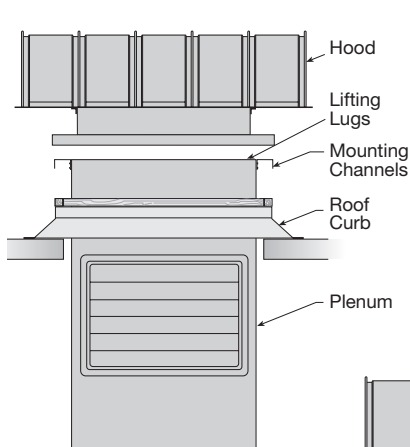

Figure 1
2. Lower the plenum (factory assembled) through the curb and roof opening until its mounting channels rest on the roof curb. Lifting Lugs are provided. (Figure 1)
3. Lower the hood onto the curb/plenum assembly. (Figure 1)